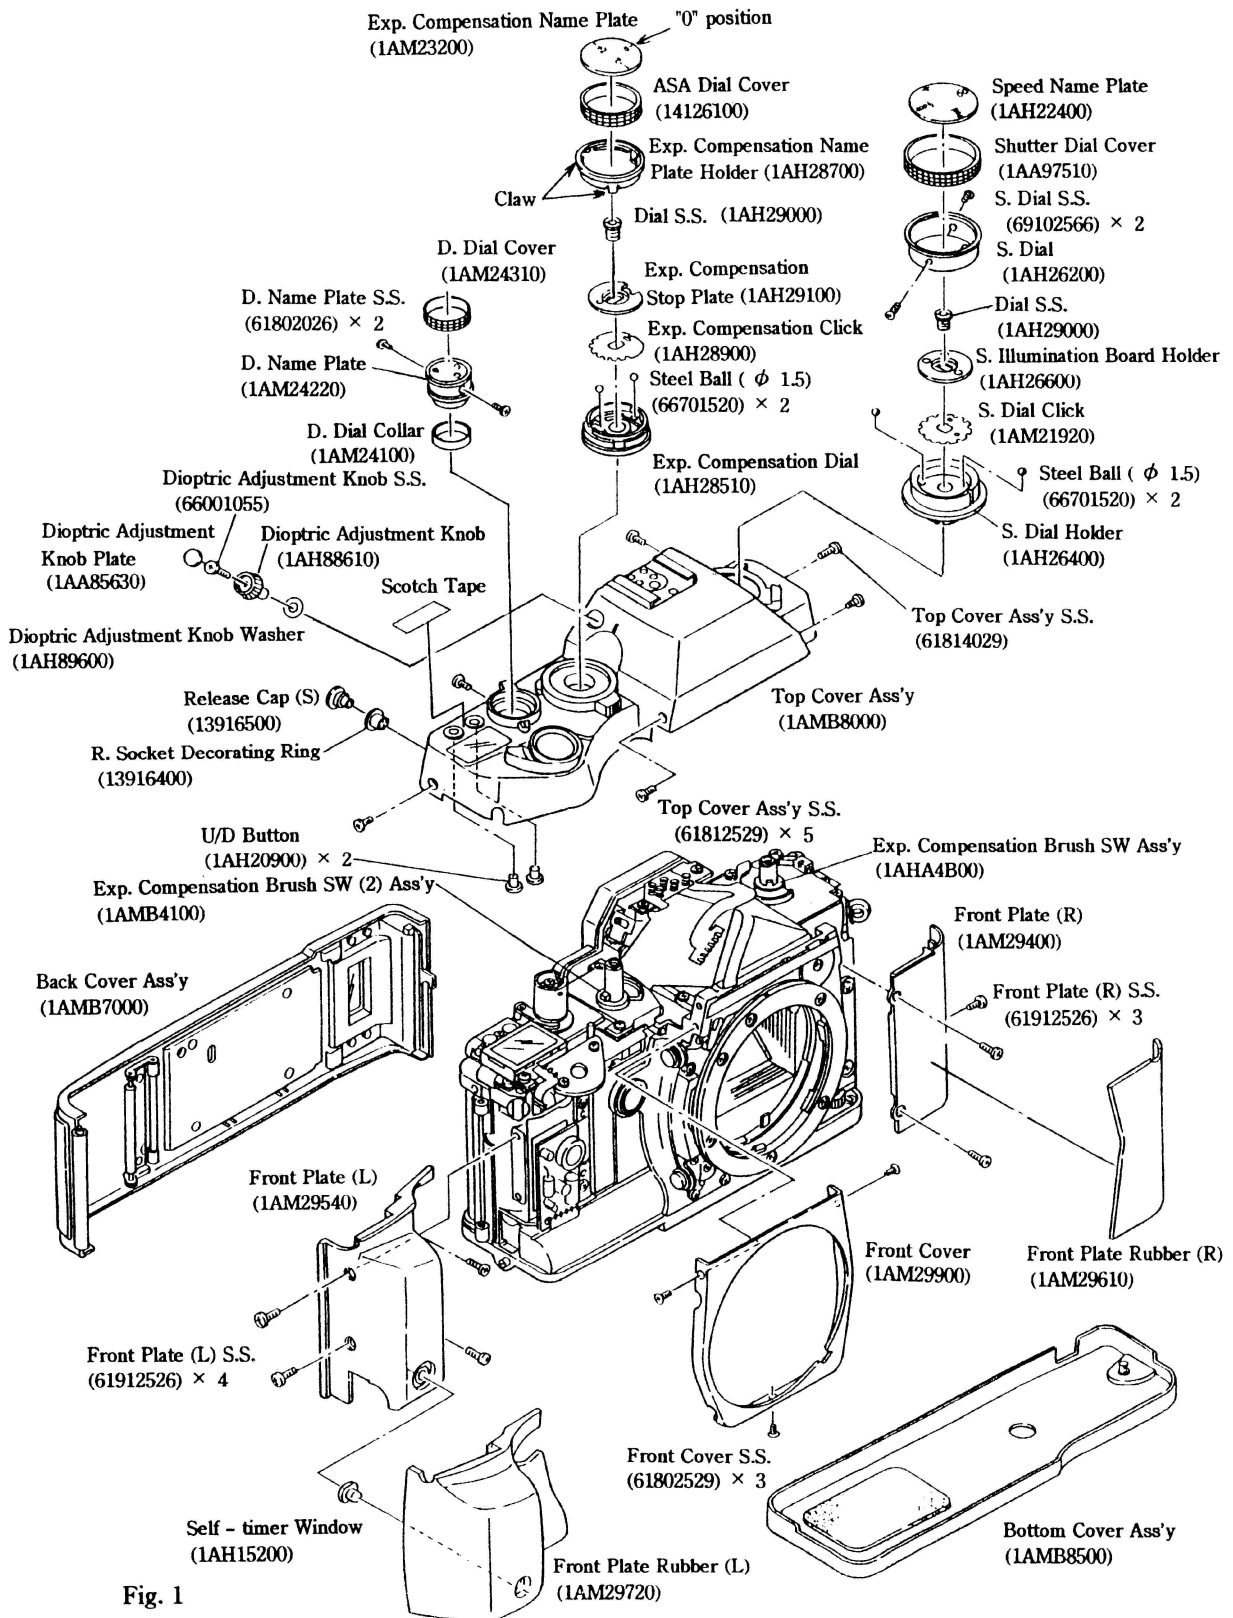

Fig. 1
11) Remove the Release Cap (S) (13916500) and R. Socket Decorating Ring (13916400).
12) Stick the Scotch Tape to the U/D Button (1AH20900)  $\times$  2. (See Fig. 1 )
**Notes:** a) After the removal of the Top Cover Ass'y, you can take off the Exp. Compensation Brush SW Ass'y (1AHA4B00) and Exp. Compensation Brush SW (2) Ass'y (1AMB4100). (See Fig. 1)